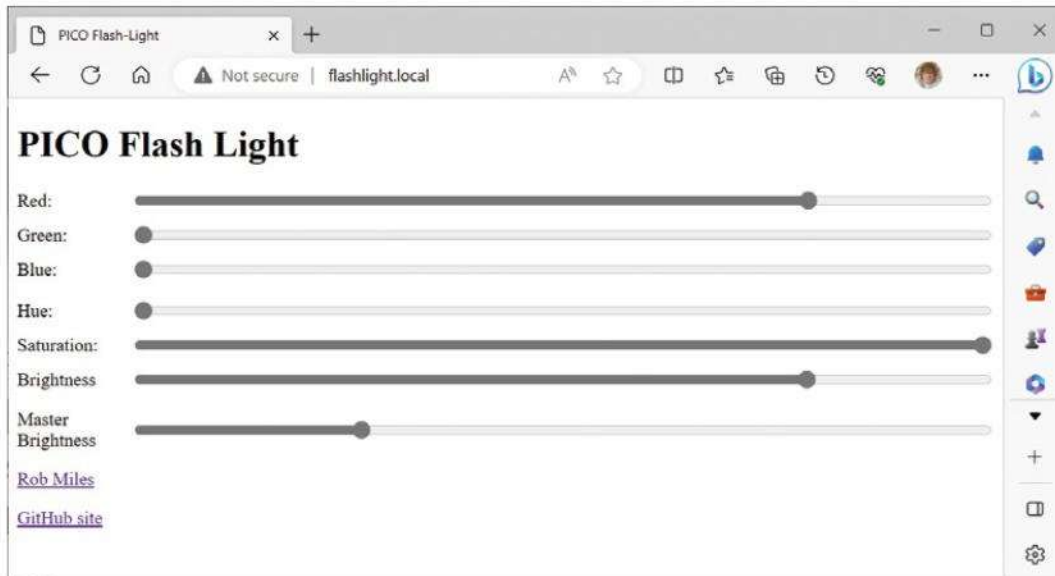

Figure 2 The sliders in the web page fit the width of the browser being used. It works well on mobile phones in landscape mode
Figure 2 shows the web page that is hosted by Pico W fitted inside the light. You can set the colour of the light by using the sliders to adjust red, green, and blue intensity or hue, saturation, and brightness. The master brightness slider controls the overall brightness of the light. The Pico W runs an HTTP server which serves out the web page. The latter contains JavaScript code to read the slider values and send web requests back to the Pico W. The web requests contain the required colour and brightness settings. Let's look at how this works. The overall sequence of operation is as follows:
1. The light is switched on. A CircuitPython program starts running in the Pico W. The program connects to the local Wi-Fi, and then starts a web server hosting the web page you can see in Figure 2.
The web page in **Figure 2** shows how the colour of the lights is controlled. We now know how this page is served by the Pico in the light. Next, we need to discover how the code in the web page works. This code runs inside the browser and is written in JavaScript (the language of the web). When the browser loads the web page from the Pico, it calls a function called `startReader` to start the value reader. The first thing the function does is set up the address of the server so it knows where to send web